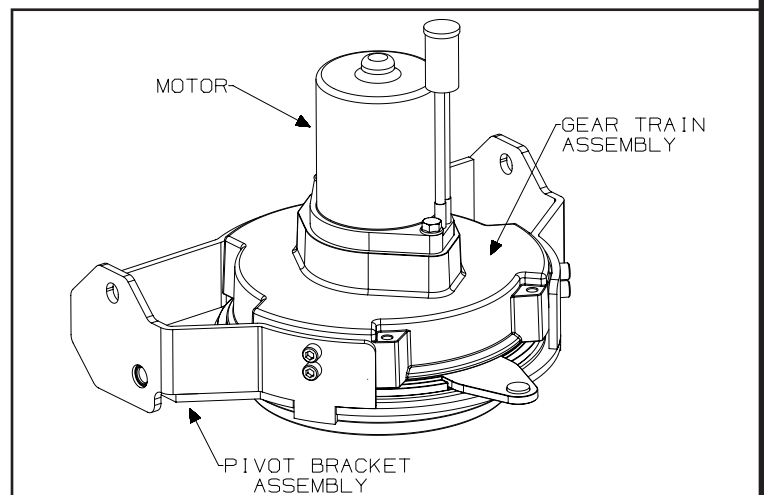

Figure 6
6. Figure 6 shows the current configuration of the WARN Pro-Pivot. The Pro-Pivot's major components are the motor, gear train assembly and the pivot bracket. The Pro-Pivot then mounts onto the push tube assembly, replacing top retaining plate and bearing plate.